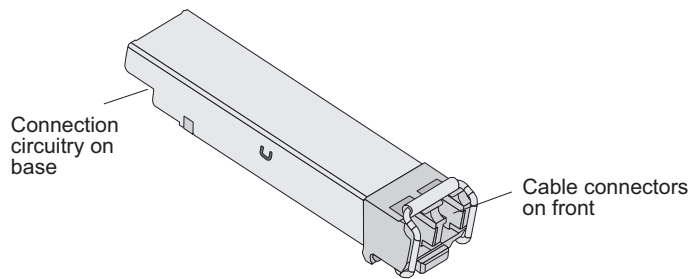

Figure 7-3 Example of SFP
- 2 Identify the following items on the SFP (see Figure 7-3):